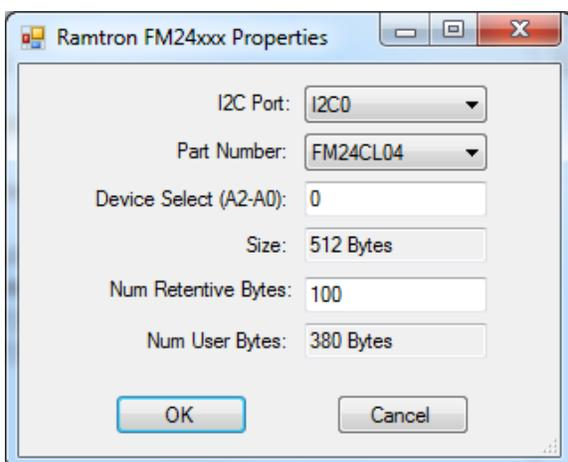

Figure 2-32 - Ramtron FM24xxx Properties
4. Enter the number of retentive bytes to use in the target in the *Num Retentive Bytes* box. The maximum available to use is 480 bytes (defaulted to 100 bytes). Refer to Figure 2-32. Any bytes not configured for retentive may be used as EEPROM memory bytes. (displayed as *Num User Bytes*). **Do not select a different Part Number. Verify it is configured for FM24CL04 only.**